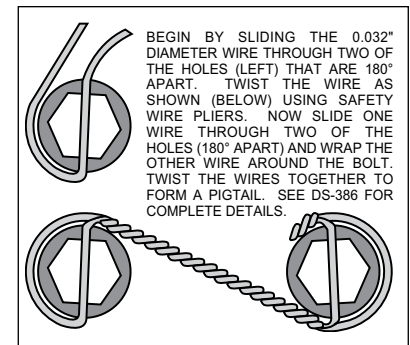
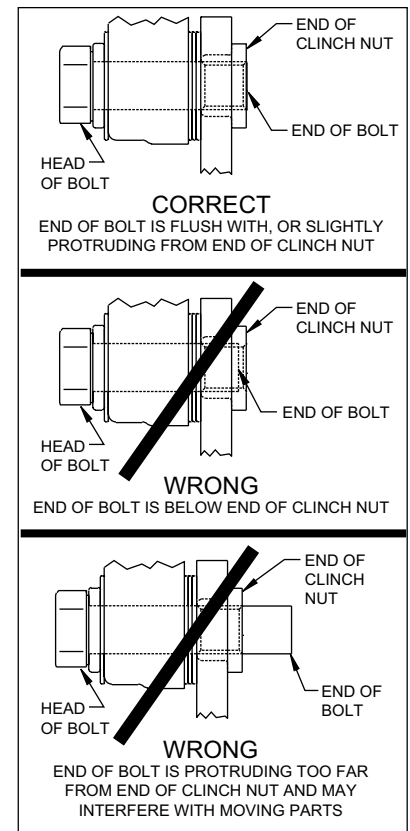

Figure 4. Safety Wire Diagram
Figure 5. Clinch Nut Engagement Diagram
CAUTION: All mounting bolts must fully engage clinch nuts. Be sure to check that all bolts are either flush or protruding through flanged side of clinch nut after shimming, Figure 5.
- With the slot pointing upward and the mounting ears pointing towards the rear of the vehicle, install the caliper mounting bracket (1) to the housing flange using the stock Original Equipment Manufacturer (OEM) bolts and nuts. Stock OEM hex nuts that retain the bracket (1) should be on the wheel side of the bracket. Apply red *Loctite*® 271 to the stock OEM bolt threads and torque to OEM specifications. **NOTE:** Some brackets act as the bearing retainers, while others help locate the bearing in the axle housing flange. If the stock bearing plates are still on the axle, the caliper mounting brackets (1) should be located between the axle housing flange and the bearing retainer plate. Make sure the heads of the caliper mounting bracket insert nuts are FACING OUTWARD TOWARDS THE WHEEL.
- The rotor (3) has two sides. A flat side and an inset side. Bolt hat (2) to flat side of rotor (3) using bolts (5). Apply red *Loctite*® 271 to the bolt threads and torque to 25 ft-lb using a criss-cross pattern. Safety wire bolts using standard 0.032 inch diameter stainless steel safety wire as shown in Figure 4. Please refer to Wilwood's data sheet DS-386 (available at www.wilwood.com/Pdf/DataSheets/ds386.pdf) for complete safety wire installation instructions.
- Align the correct hole pattern in the hat (2) with the stud pattern on the axle flange. **NOTE:** Some OEM and after market axles come with stud sizes larger than 0.50" diameter. Verify stud size and have a qualified machine shop drill the hats to the correct size. Slide the hat/rotor assembly (2 and 3) over the wheel studs and against the axle flange face.
- NOTE:** Please reference the caution statement at the beginning of the assembly instructions. Mount the caliper (6) over the rotor (3) and onto the caliper mounting bracket (1) using washers (7) and mounting bolts (8). View the rotor through the top opening of the caliper. The rotor should be aligned in the center of the caliper. If not, adjust the caliper by using 0.032 inch shims (9) by placing them between the caliper mounting bracket (1) and the caliper (6). Add as many shim washers (9) as necessary to achieve the correct alignment. **NOTE:** The end of the bolt must be flush with or slightly protruding from the head of the clinch nut. See Figure 5. Place spare shims (9) between washer and caliper mounting ear to achieve the proper mounting fastener configuration. Always use the same amount of shims on both the top and bottom caliper mounting bolts (8). Apply red *Loctite*® 271 to the mounting bolt threads (8), torque to 40 ft-lb. Caliper mount bolts may be safety wired for additional security.
- Position the Wilwood disc brake pads (10) into the caliper (6) and fasten with cotter pin (4). Steel backing plate side of brake pad should face the caliper pistons.